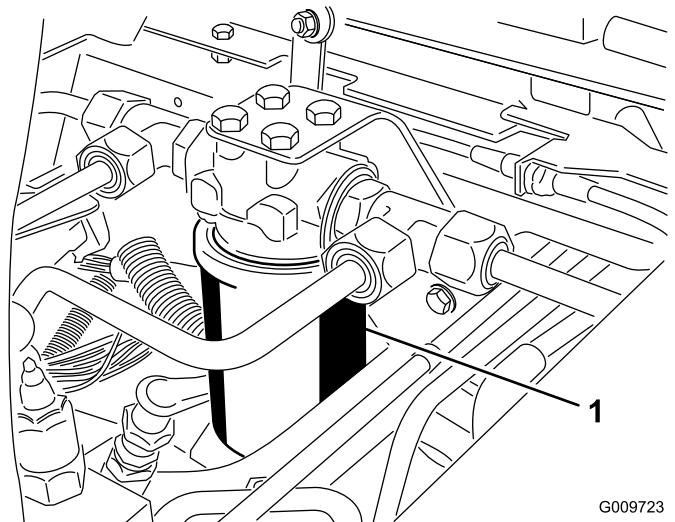
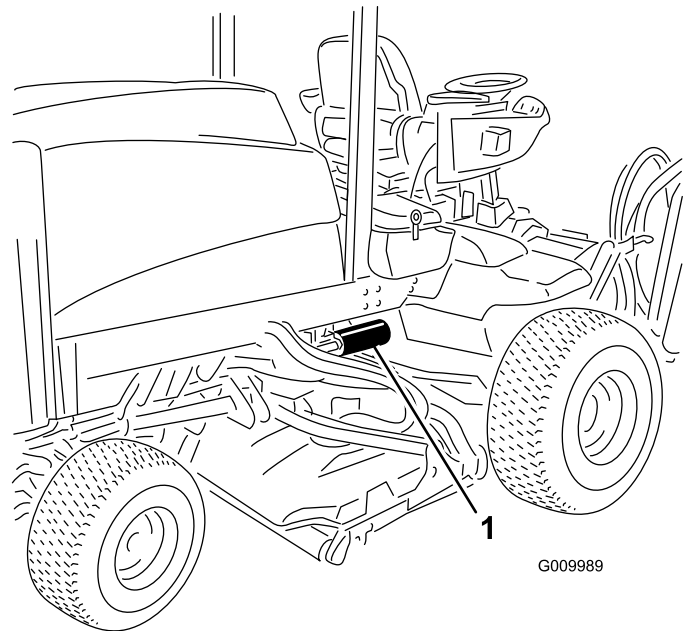

Figure 61
Figure 62
3. Place a drain pan under the filter and remove the filter (Figure 61 and Figure 62).